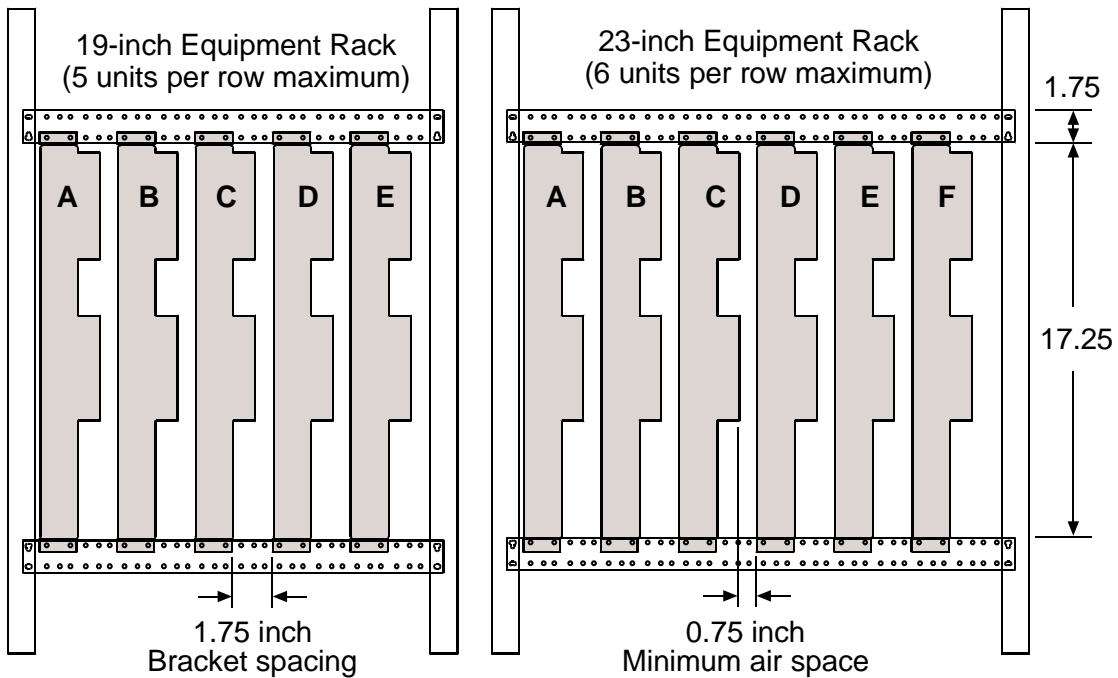

Figure 5-9. Spacing Requirements
1. Position Access Navigator vertically in crossbar slot (refer to office records) with 1.75 inch minimum bracket spacing (3 holes) between other brackets in row (see Figure 5-9 on page 5-14).